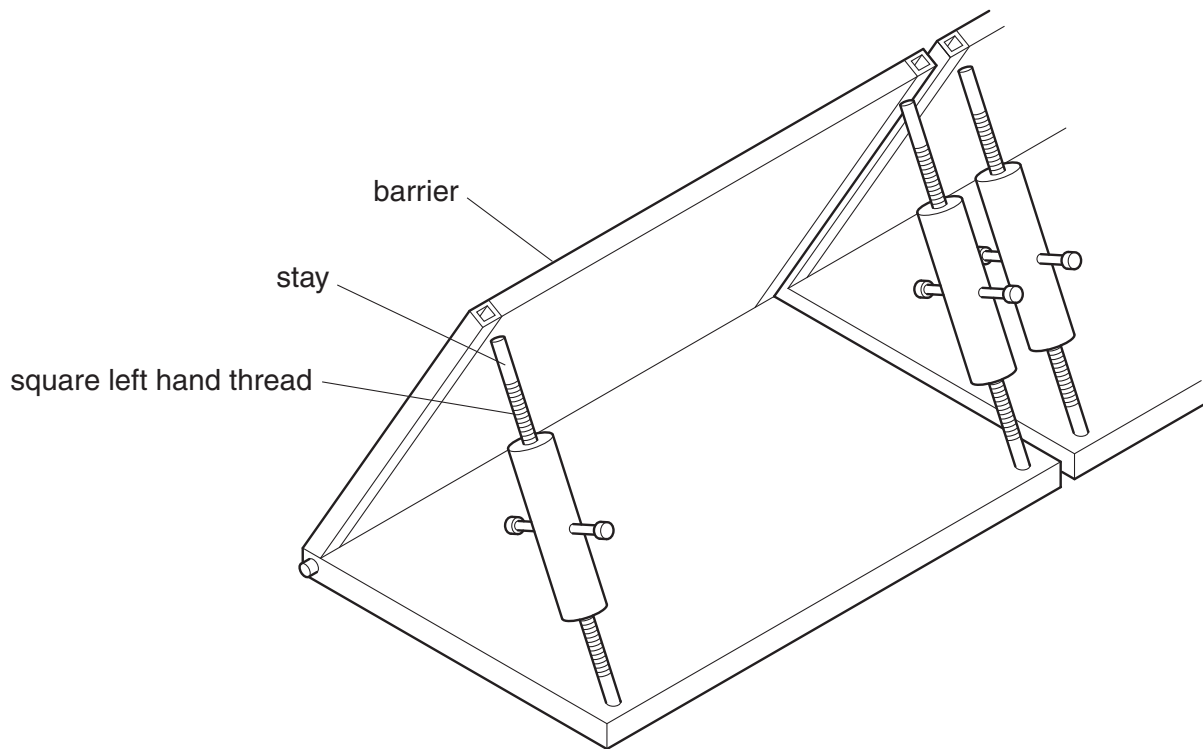

Fig. 3
- 2 Fig. 3 shows an alternative flood defence system with a height adjustable barrier.